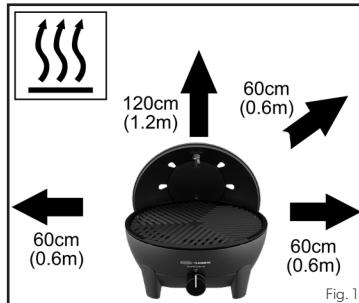

Fig. 1
- This appliance must be kept away from flammable materials during use. Minimum safe distances are: Above the appliance 120cm. At the rear and sides 60cm, (fig 1)